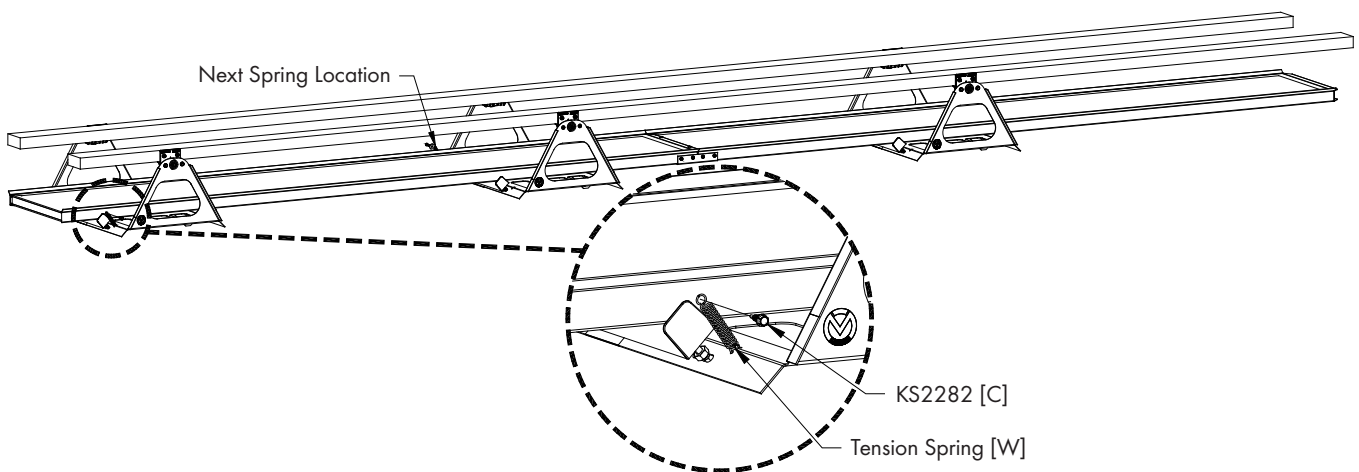

Figure 11
At first Lift Point fasten door to Carrier Arm Assembly by installing the hook end of (1) Tension Spring [W] through the 2 holes in Carrier Arm Assembly and then securing the loop end of the spring to door using (1) KS2282 TEK Screw [C]. See Figure 11. Repeat for each Lift point, alternating the side that the spring is installed on.